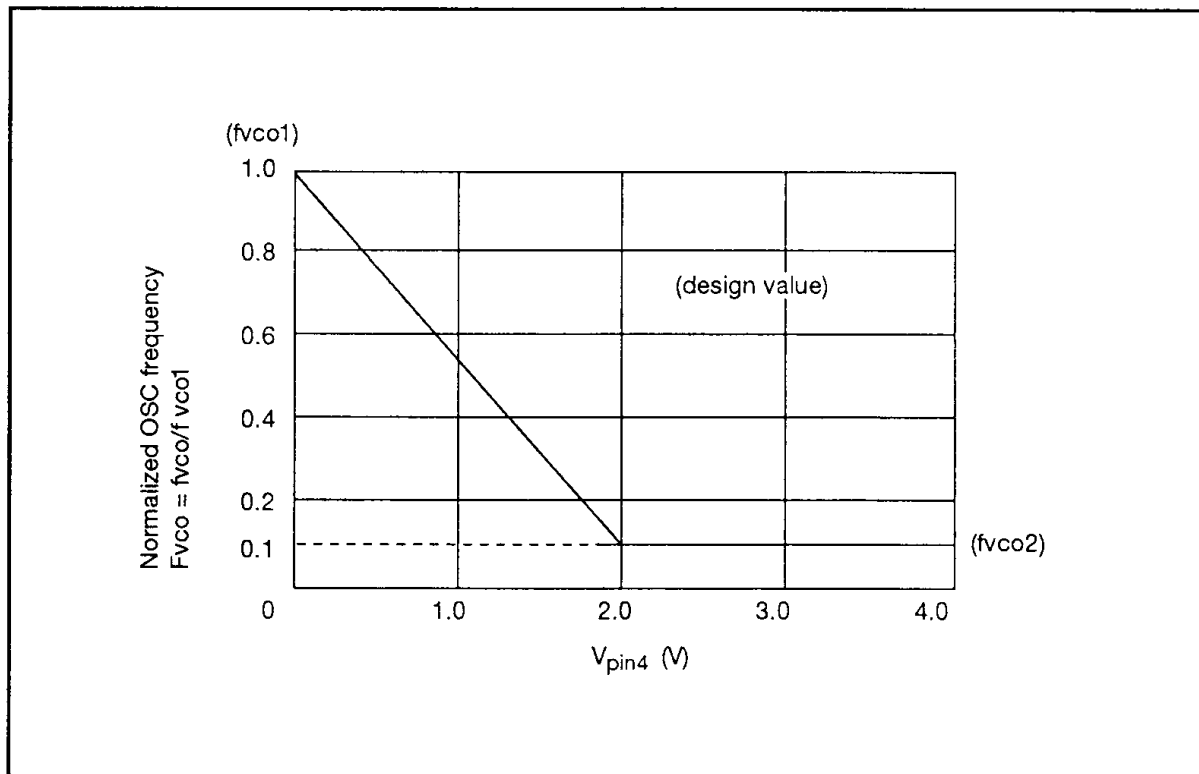

Figure 3 VCO Characteristics
2. The reference voltage V_{ref2} is measured from pin 15 to pin 16.
3. See figure 3 in references.